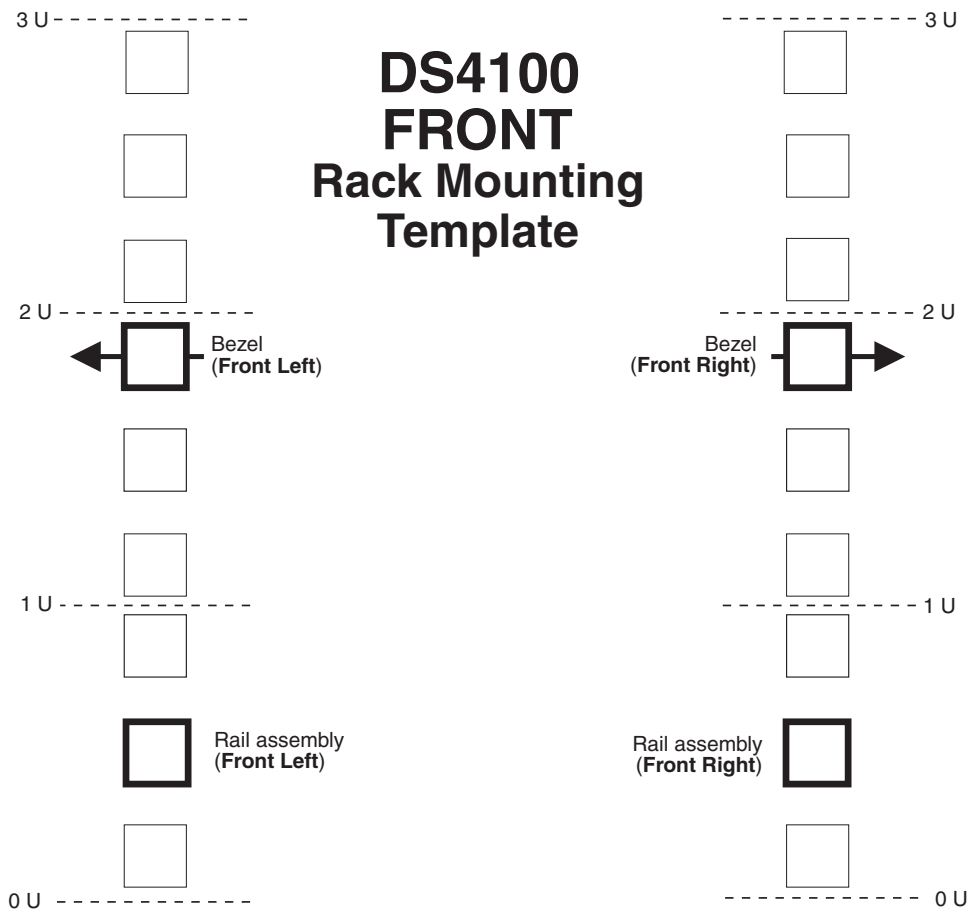
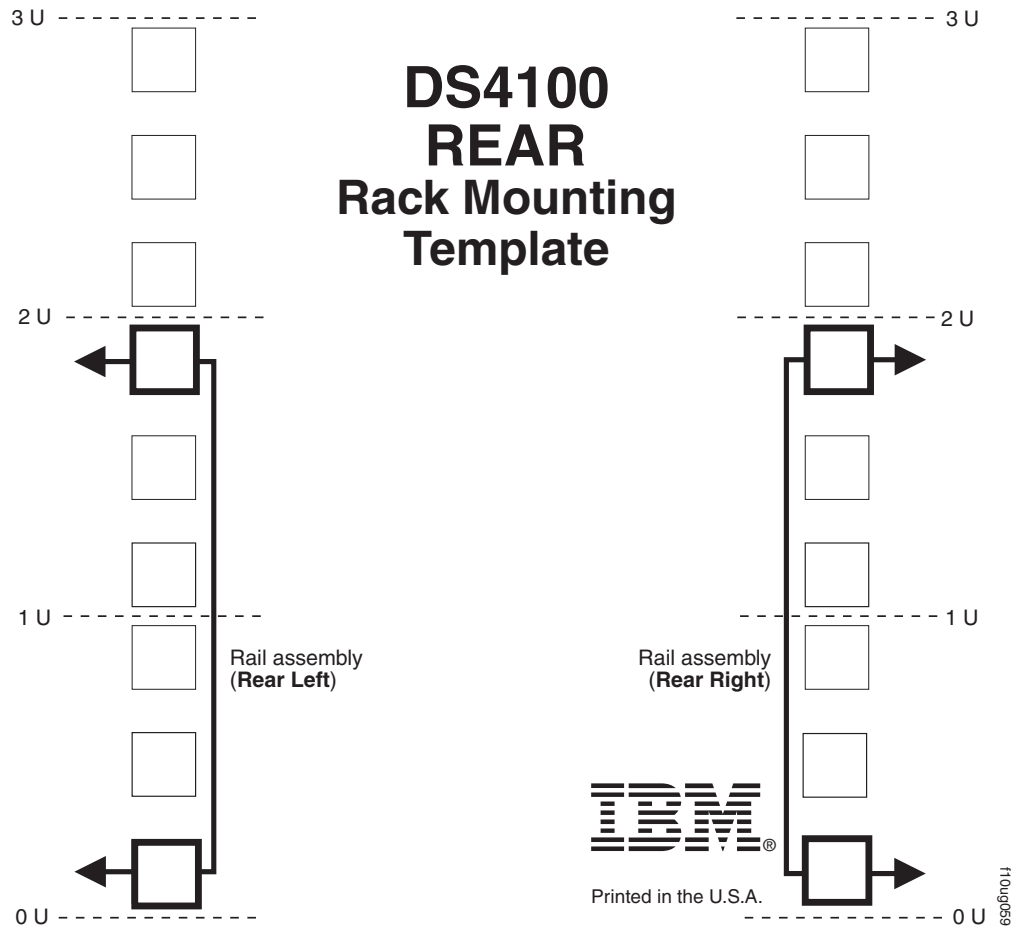

Figure 8. Front rack mounting template
Figure 9. Rear rack mounting template
Use the following templates (Figure 8 on page 23 and Figure 9 on page 24) to identify the proper locations for inserting M6 screws when mounting the support rails and DS4100 to a rack cabinet. The locations for the M6 screws are highlighted in the templates.
Attention: Use the rack mounting template provided in Figure 8 on page 23 and Figure 9 on page 24 to locate the proper rack mounting holes for installing the support rails into the rack cabinet.
- Hold the front of the rail against the inside of the right rack-mounting flange and loosely tighten the lower M6 screw (**4**). See Figure 8 on page 23 for the location for this screw.
- From the rear of the rack, thread and tighten two M6 screws (**1**) (see Figure 9 on page 24 for the location for these screws). From the front of the rack cabinet, finish tightening the front M6 screw (**4**).